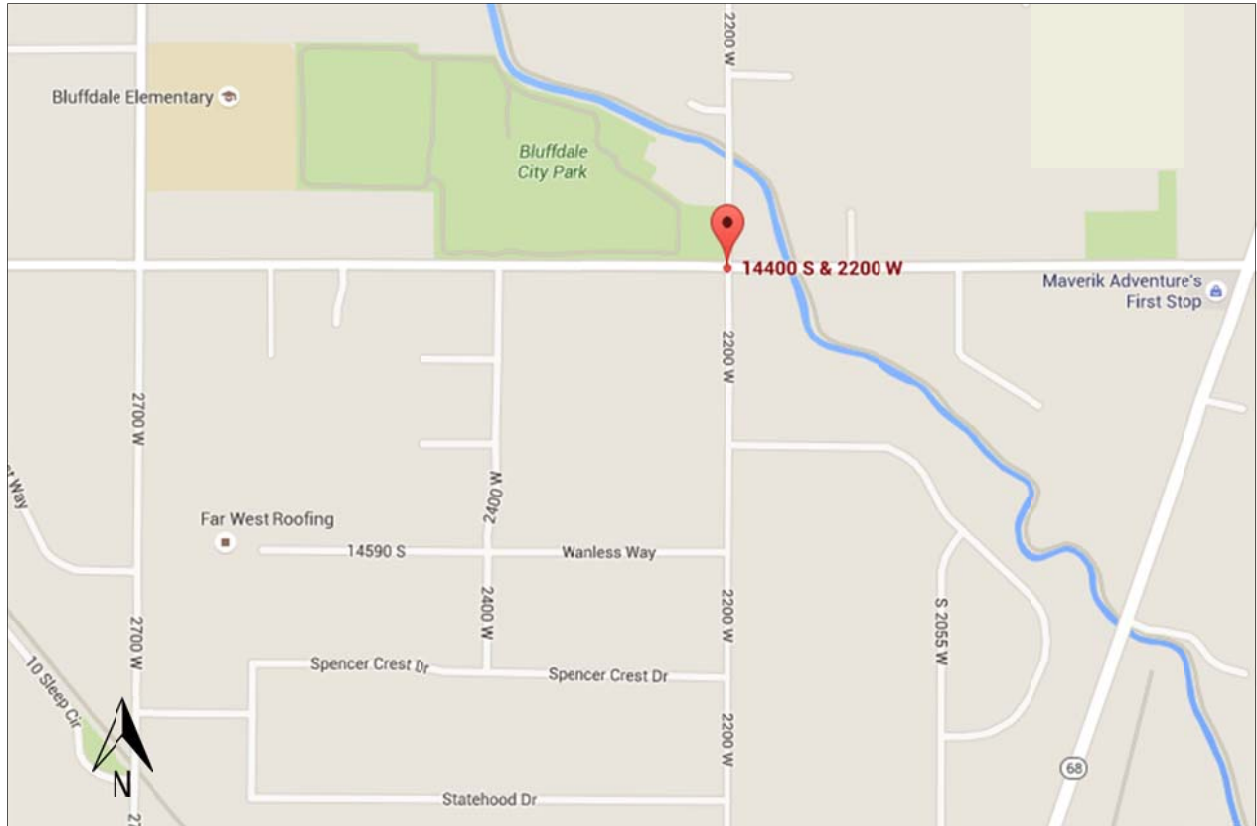

Figure 4: 14400 S and 2200 W (maps.google.com 2015).
- 2200 W and 14400 S (see Figure 4)